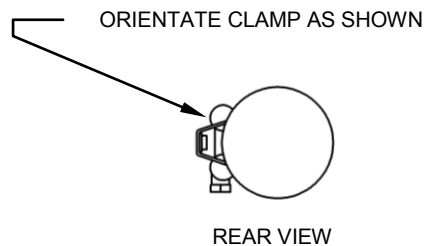

FIGURE 2
10. To install the front heatshield, first slide the rear portion of the heatshield over the muffler, continue to slowly slide it forward pushing the front of the shield gently into place between the frame and motor (Hint: Spread the hose clamps apart slightly to make it easier to slide them over the muffler assembly and head pipes). Make sure the muffler clamps don't interfere with the heatshields and are aligned as shown in Figure 2. Snug the heatshield clamps but **DO NOT TIGHTEN**.